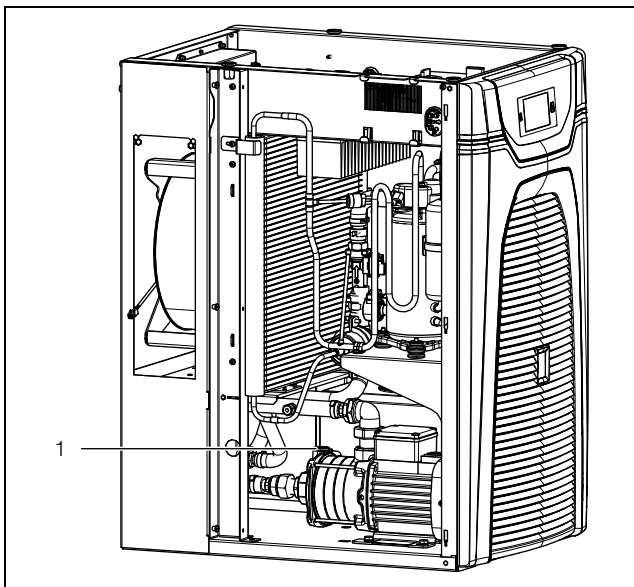

Fig. 39: Bleeding the cooling medium pump
- Bleed the cooling medium pump (with the system at a standstill) by loosening the vent screw (fig. 39, item 1). As soon as cooling medium escapes from the vent screw, bleeding of the pump is complete.